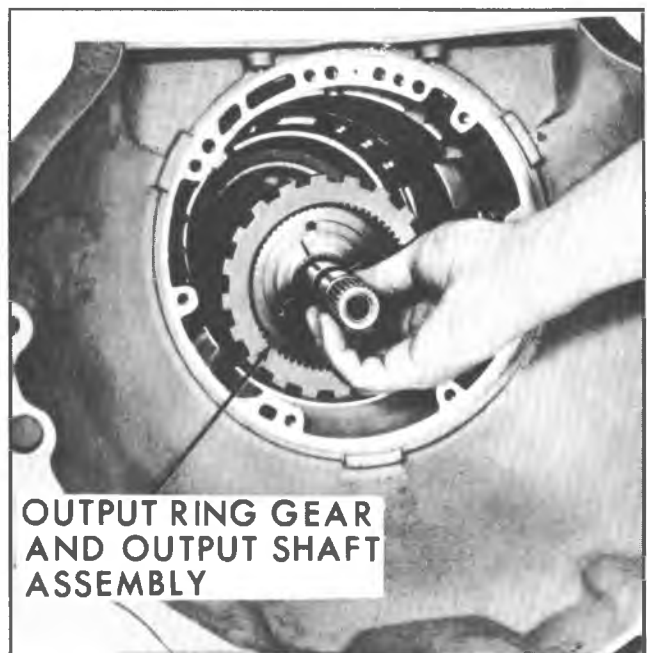

Fig. 41N--Removing Output Ring Gear and Shaft Assembly
- 17. Remove output ring gear and shaft assembly from case (fig. 41N).